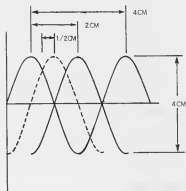

Figure 4-1. Vibrato Adjustment Waveform
- i. Depress the VIBRATO NORMAL tab. Adjust the VIBRATO WIDTH control for a total phase shift swing of 2 cm. (refer to Figure 4-1). If VIBRATO WIDTH control does not give satisfactory result, select R133, Figure 5-1 through 5-4 between 220 Ω and 1K.
- j. Release VIBRATO NORMAL tab. Single wave must be centered $\pm \frac{1}{2}$ cm. as shown in Figure 4-1.